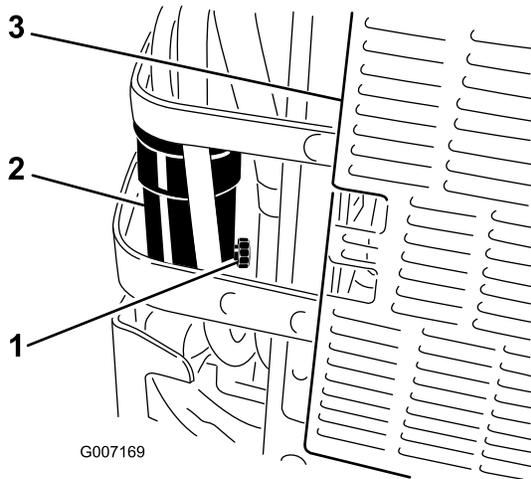

Figure 47
6. Open the drain valve on the water separator approximately one turn to allow water and other contaminants to drain (Figure 47).
7. Close the drain valve when only diesel fuel comes out (Figure 47).